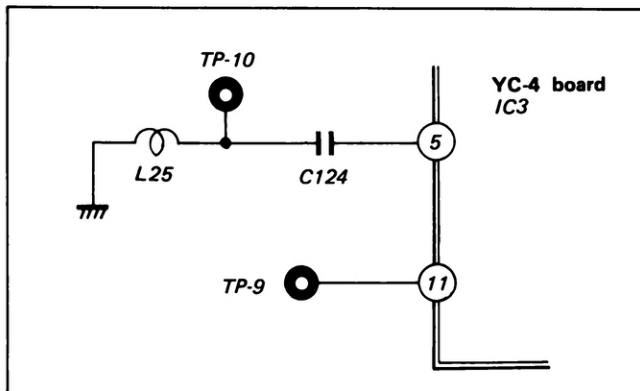

Fig. 4-26. Measurement points
- (1) Impress a $8.5 \text{ V} \pm 0.1 \text{ V}$ level to TP9 from the DC-regulated power supply.
- (2) Insert a blank tape and set up the PLAY mode.
- (3) Connect the frequency counter to TP10. (See Fig. 4-26.)